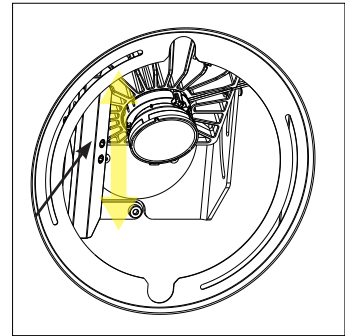

fig. 20 (tilt)
- d. Using the 4 mm hex tool use the tilt control to aim the emitter (see fig 20).